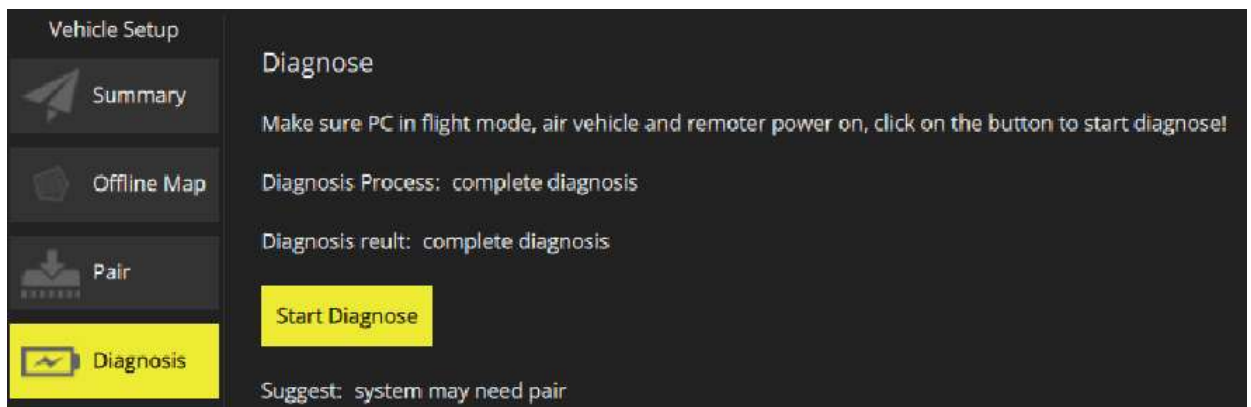

Figure 3-30
Step 3 Display diagnosis suggestion after diagnosis is completed. "Start Diagnosis" button becomes yellow, as shown in Figure 3-30.